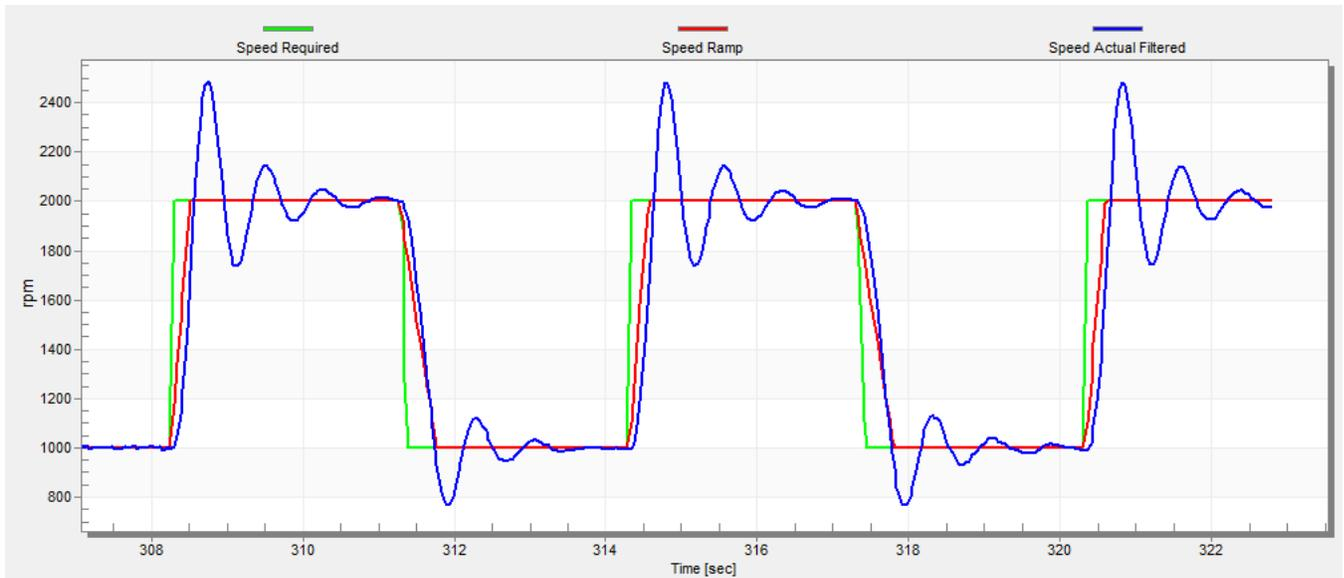

Figure 49. Speed Controller Response—SL\_Kp value is low, Speed Actual Filtered greatly overshoots
- The “SL\_Kp” value is low, the “Speed Actual Filtered” greatly overshoots, and the long settling time is unwanted (see Figure 49).